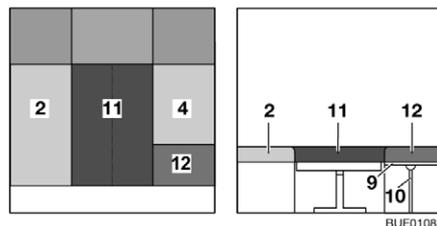

Fig. 99 After conversion
- Place the additional cushion (Fig. 99,11) between the seat cushions (Fig. 99,2 and 4).
- Lay the additional cushion (Fig. 99,12) on the bedding box extension (Fig. 99,9).